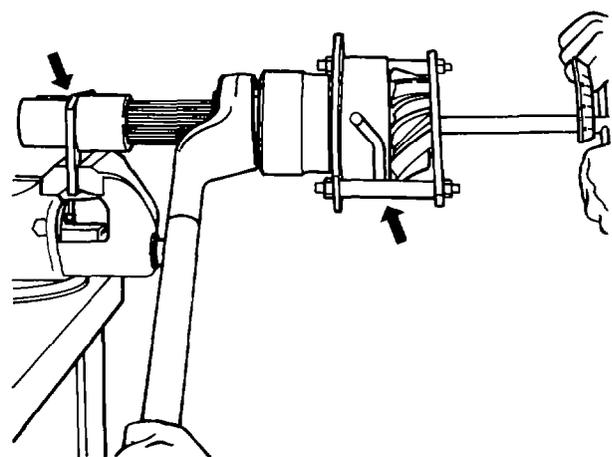

Figure 63 Setting the Breakaway Torque
- r. Attach Special Tools No. 14 and 15 to the pinion flange (see Fig 63); continue tightening the yoke nut until a breakaway torque of between 6 Nm and 6.5 Nm is reached. The breakaway torque is obtained just before the yoke nut slips its neutral position on the shaft.